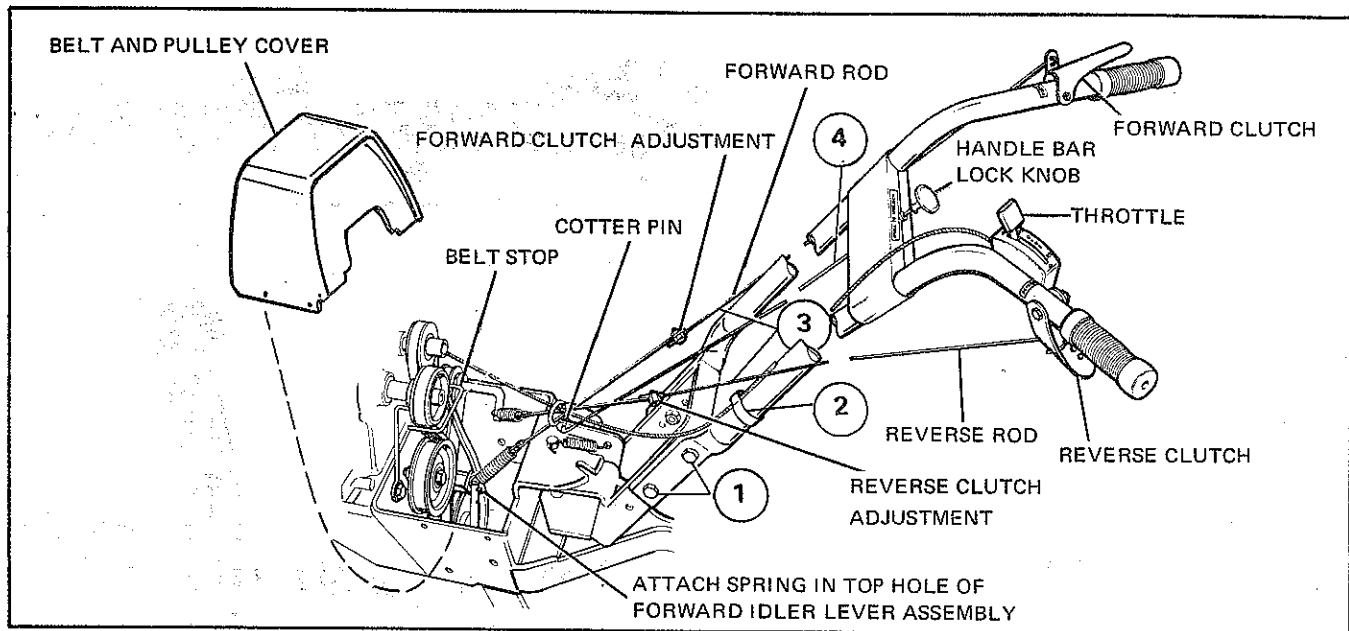

Figure 1
2. Attach the handle assembly to the handle support with the (4)  $\frac{3}{8}$ "-16 x 1" long capscrews,  $\frac{3}{8}$ " lockwashers and  $\frac{3}{8}$ "-16 hex nuts. See Item 1, Figure 1.
3. Attach the forward and reverse control rods as shown in Item 3, Figure 1. Refer to Clutch Adjustments for proper settings.
4. Remove the cable clip which holds the throttle cable to the left hand handle assembly. See Item 2, Figure 1. Insert the curved end of the throttle control on the engine throttle lever located on the right hand side of the engine. Loosen the engine throttle clip. Place the throttle
5. Install the handle control rod and knob as shown in Item 4, Figure 1.
1. Check for proper clutching action. Set the belt stop as near as possible to the belts when they are engaged. Make sure that the belts stop turning when the clutch lever is released and do not slip when gripped. If adjustment is needed, loosen the round head screw in the wire clamps and reposition the control rods. See Figure 1.
5. In addition to the handle assembly being adjustable for the proper height it also may be adjusted in either of 3 sideways positions. To adjust the handle in a different position, pull back on the handle control knob and rotate the handle assembly to the desired notch, release the handle knob. See Figure 1.